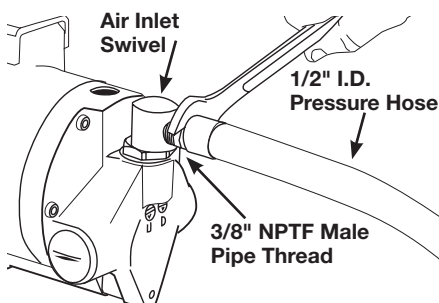

Figure 2— Connecting Air Hose to Hoist
- Connect hoist to nearest filtered and lubricated air source using minimum 1/2" I.D. air hose assembly (See Figure 2). Avoid use of reducing bushing and nipple or hose assemblies of smaller diameters which may cause restrictions.